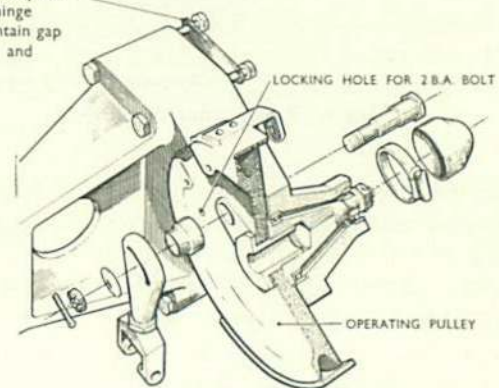

Fig. 4 Aileron operating unit
(6) Check the functioning of the control surfaces by moving the control column handle and ensure that the maximum travel conforms with the dimension given in Fig. 13. The overall travel is governed by the non-adjustable stop plates at the base of the control columns (Fig. 3), but small adjustments to the connecting link (Fig. 4) may be made
7. A clearance of 0.05 ± 0.02 in. at the outboard hinge to 0.10 ± 0.02 in. at the inboard hinge must be maintained between the aileron leading edge and both the upper and lower shrouds with the ailerons neutral. With the ailerons at full deflection, up or down, the minimum clearance is 0.002 in. Adjustment may be effected by the addition of laminum shims on the bracket attachment bolts up to a maximum thickness of $\frac{1}{8}$ in. The position of the shims for the inboard hinge bracket is shown in Fig. 4.